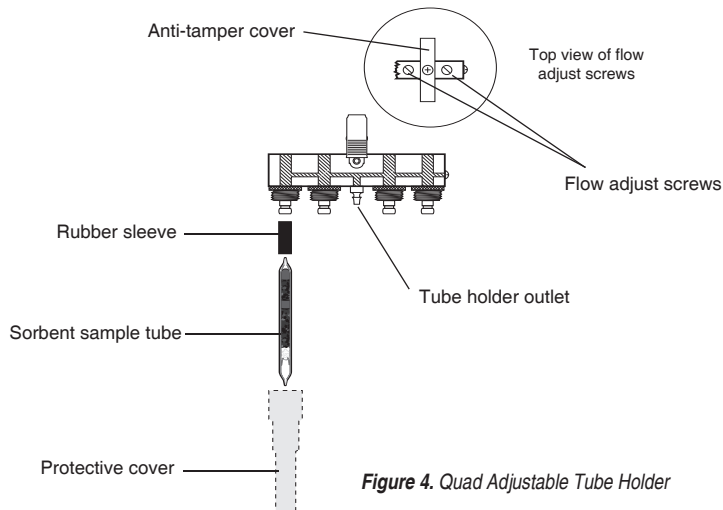

Figure 4. Quad Adjustable Tube Holder
Low Flow Applications (5 to 500 ml/min) Using Multiple-tube Adjustable Tube Holder (Figure 4)
4. Connect the adjustable tube holder (Figure 4) to the pump inlet (Figure 1) using the attached 1/4-inch Tygon tubing. See right.
5. Insert an opened sorbent tube into each rubber sleeve of the tube holder (Figure 4). **Ensure that the arrow on each tube points toward the tube holder.**
7. Using flexible tubing, connect the exposed end of the first sorbent tube to the calibrator outlet (suction port). Loosen and turn the brass flow adjust screw (*Figure 4*) on the port of the appropriate tube holder (**counterclockwise to increase, clockwise to decrease**) until the desired flow rate is achieved. **Note:** For tri and quad models, first rotate each anti-tamper cover (*Figures 4 and 5*) to expose the flow adjust screws, then adjust the appropriate one until the calibrator indicates the desired flow.